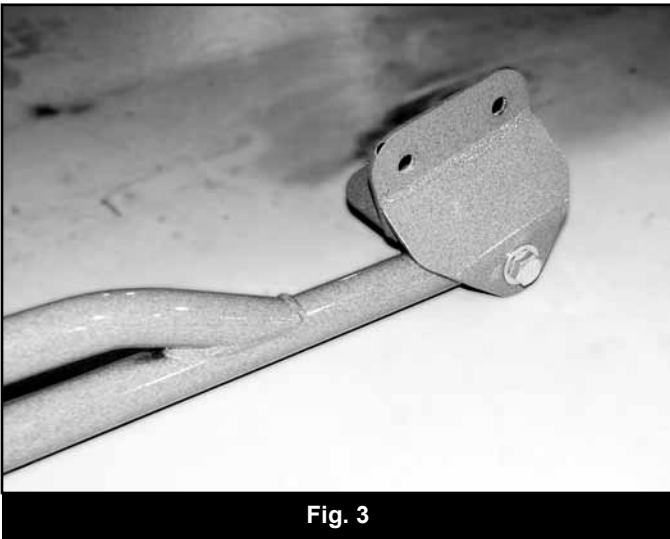
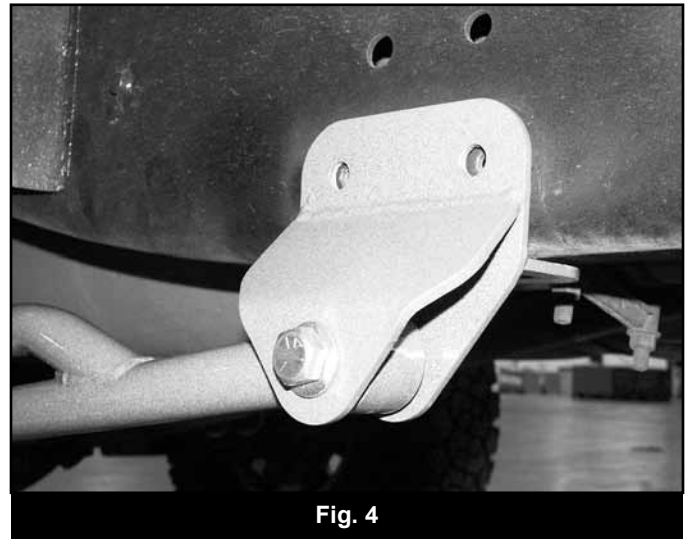

Fig. 3
Fig. 4
7. Loosely attach the provided frame bracket (01803) with a 9/16" x 3" bolt, nut and 9/16" SAE washer to the opposite end of the traction bar so that the "L" in the bracket mounts to the frame (Fig 3). Hold the bracket flush against the frame and using the three holes in the bracket as a template, mark the locations to be drilled on the frame (Fig 4). Lower the bracket/traction bar from the frame.
11. Verify proper installation by checking for consistent rivet nut deformation to see the threads are square and centered to the rivet nut. Figure 3.